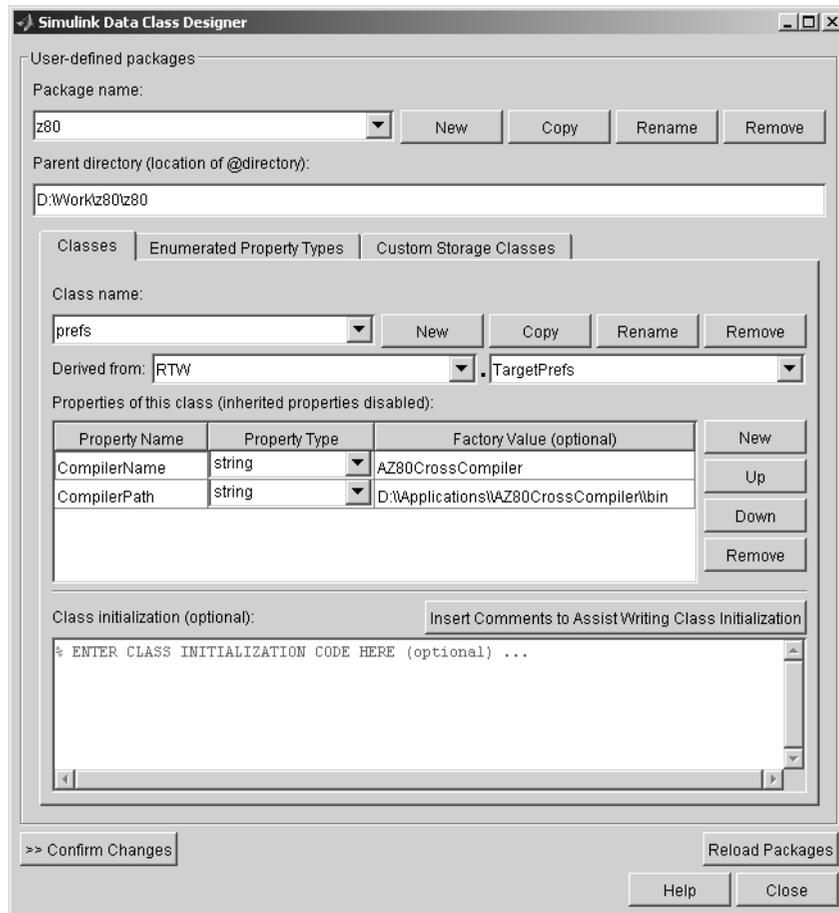

Figure 8-2: Property Definitions for z80.prefs Target Preferences Class
- 9 Populate the list of properties by entering several property names and assigning data types and factory (default) values to them. (see “Defining Class Properties” in the Simulink documentation.) Figure 8-2 below shows the **Properties of this class** field with two sample properties defined.
Note Due to a Data Class Designer bug in the current release, you must enter embedded backslashes in string property values as double backslashes (`'\\'`). If you use single backslashes (`'\'`) errors may result. For example, in Figure 8-2, the default value for `CompilerPath` is entered as `D:\\Applications\\AZ80CrossCompiler\\bin`. MATLAB correctly parses the extra backslashes as escape sequences; therefore, pathnames are returned correctly from your target preferences objects.
As an example, consider the preferences for the z80 target defined in “Using Target Preferences in the Build Process” on page 8-13. A package/class `z80.prefs` is defined with properties `CompilerName` and `CompilerPath`, as shown in Figure 8-2.